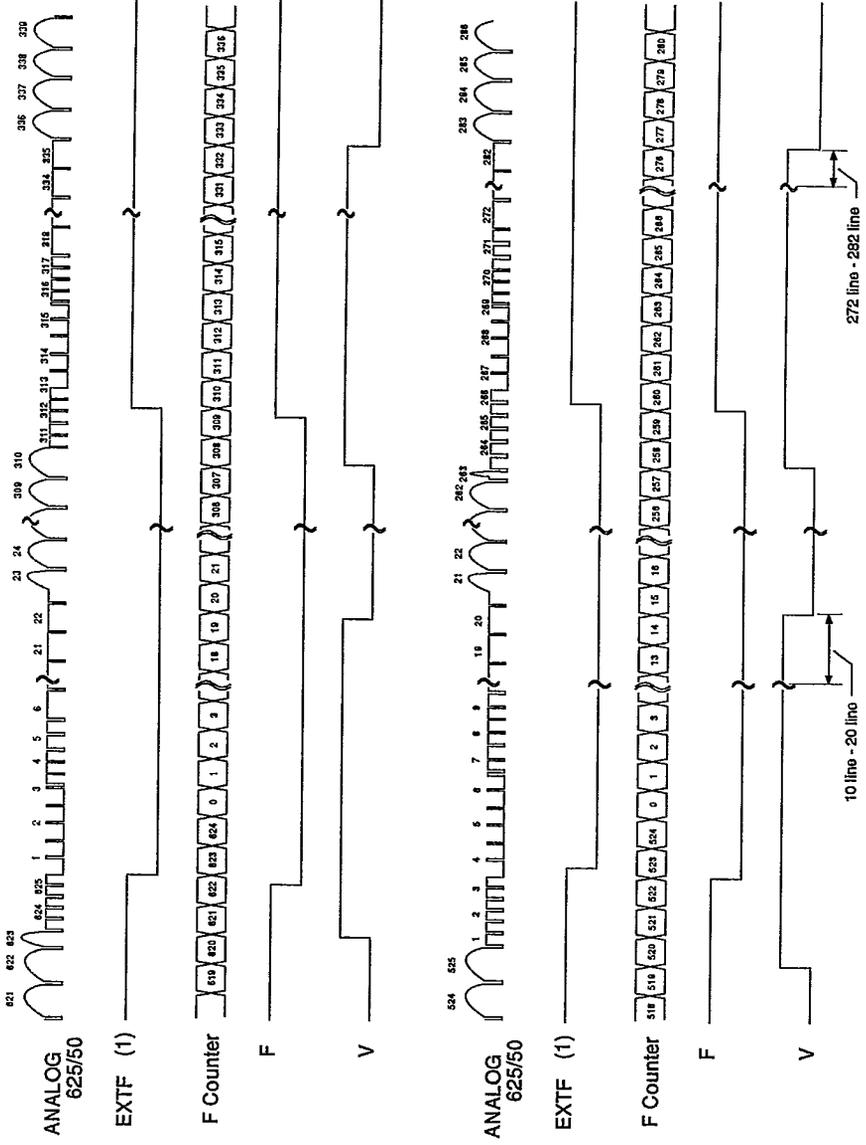

FIGURE 6
V blanking falling line in 525/60 (refer to fig.6)
2. Timing of EXTF Input (refer to Fig. 6)